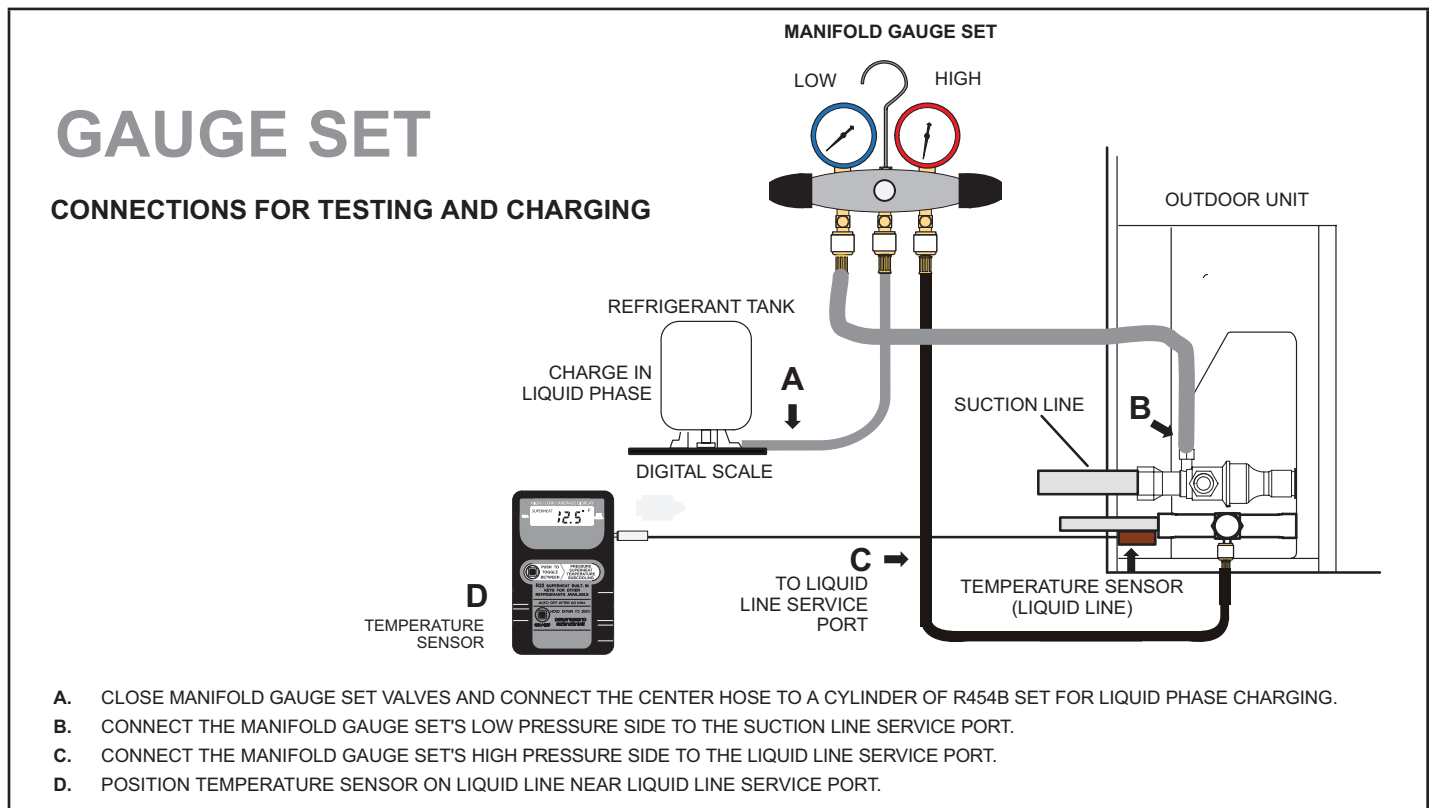

FIGURE 45. Gauge Set Connections
- 1 - Connect a gauge set for testing and charging as illustrated in figure 45.